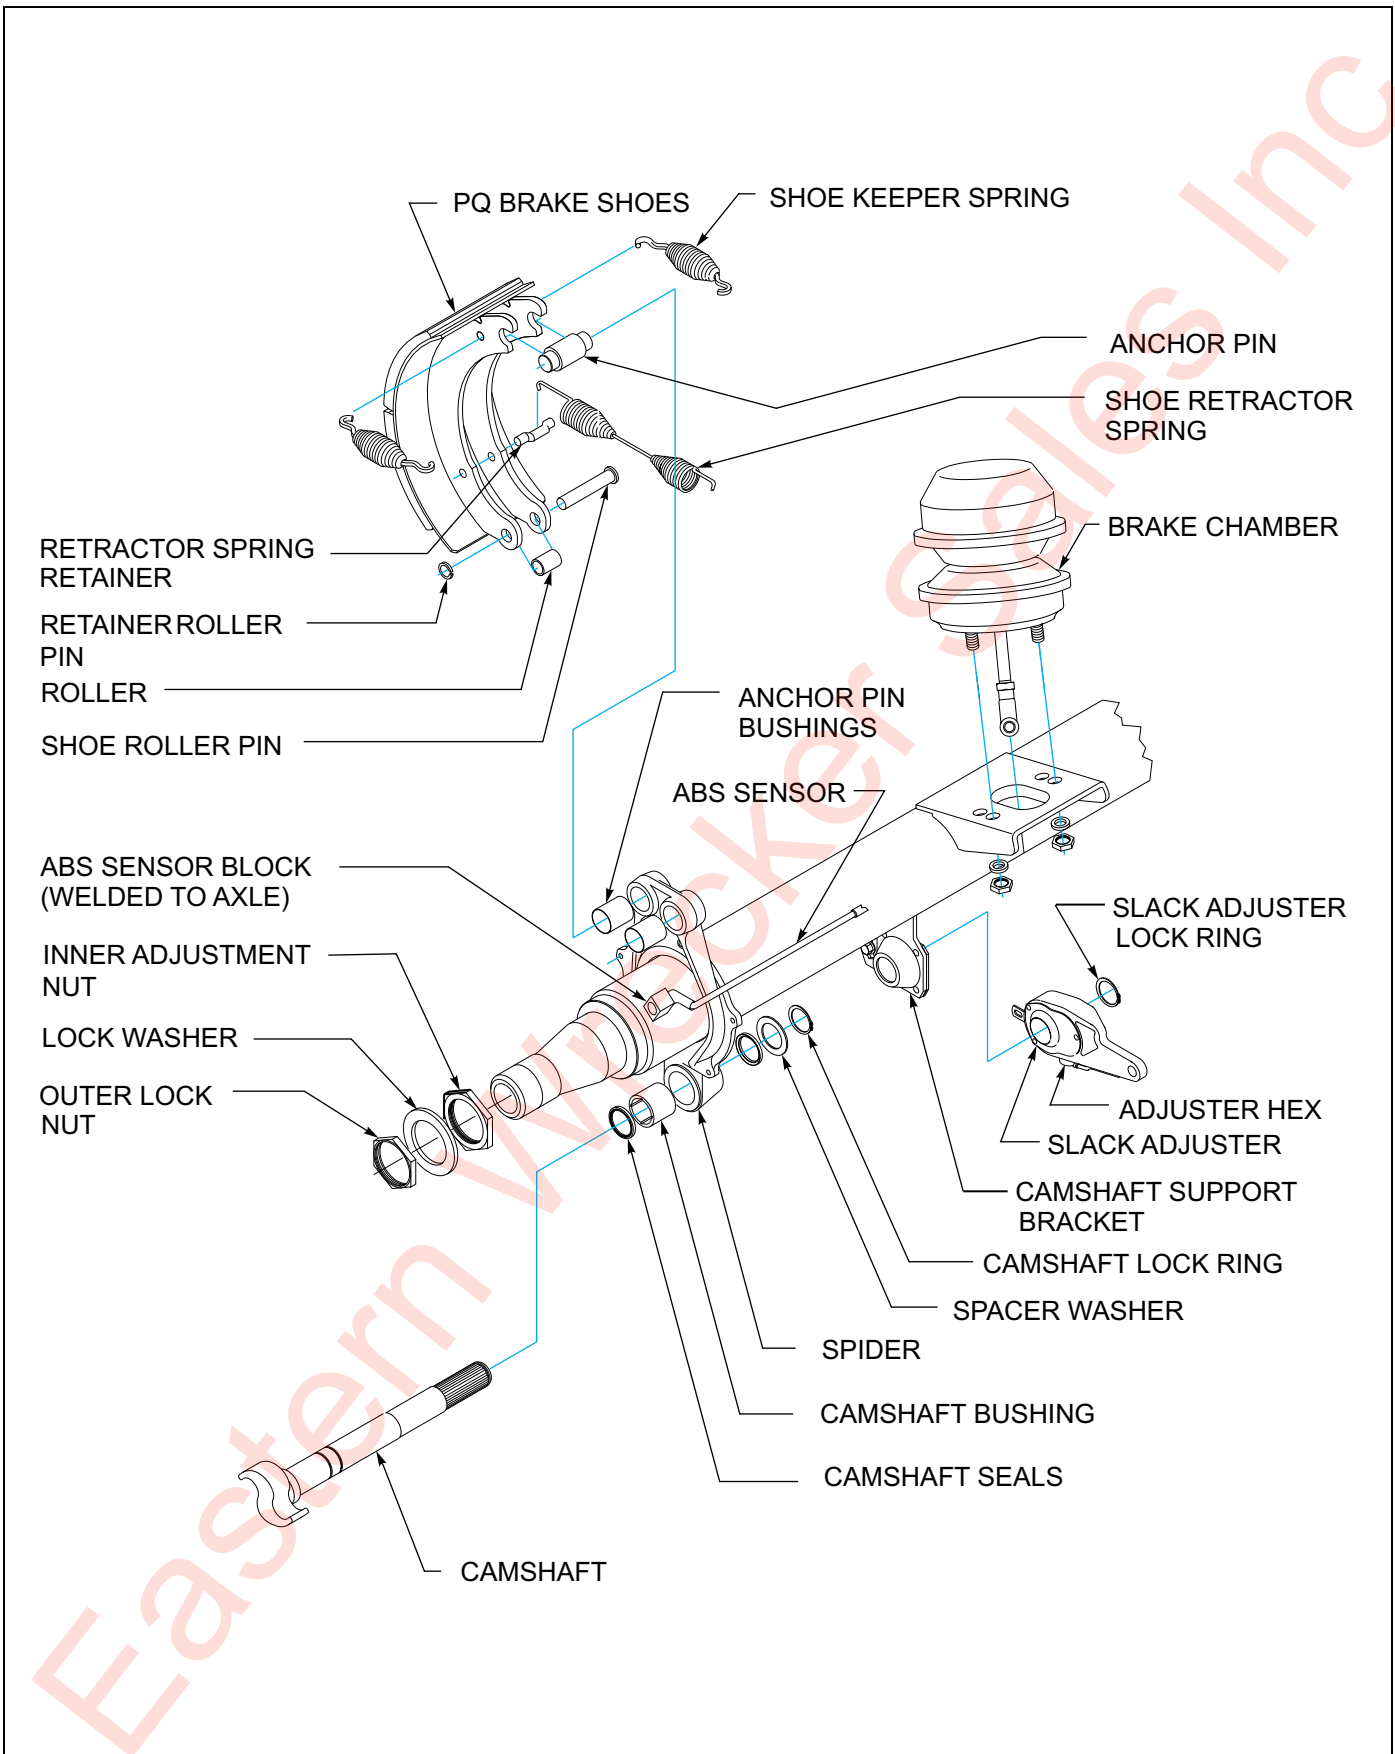

Figure 4-13: Axle and Brake Assembly
2. Remove slack adjuster lock ring and slack adjuster (See Figure 4-13.)
1. Release brakes and back off slack adjuster (See Figure 4-13.)